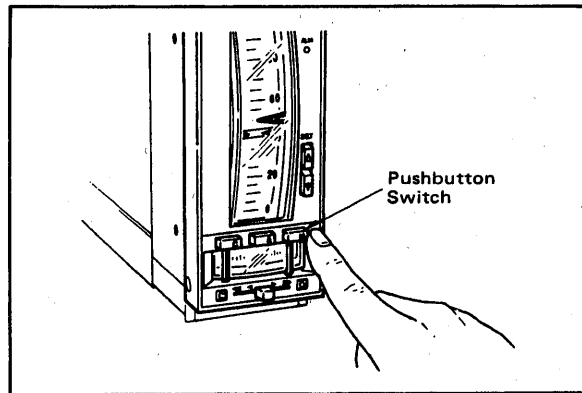

Figure 5-11. Selecting Manual Mode.
(1) Manual operation with the manual operation lever
- a. Press the  mode transfer switch. (The built-in indicator lamp comes on.) (See Figure 5-11.)